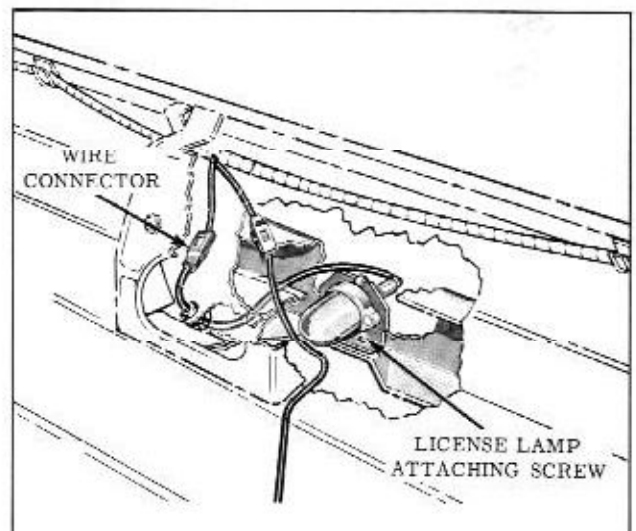

Fig. 13-98 Rear License Lamp
1. Remove 2 lamp attaching screws from bottom side of rear bumper. (Fig. 13-98)